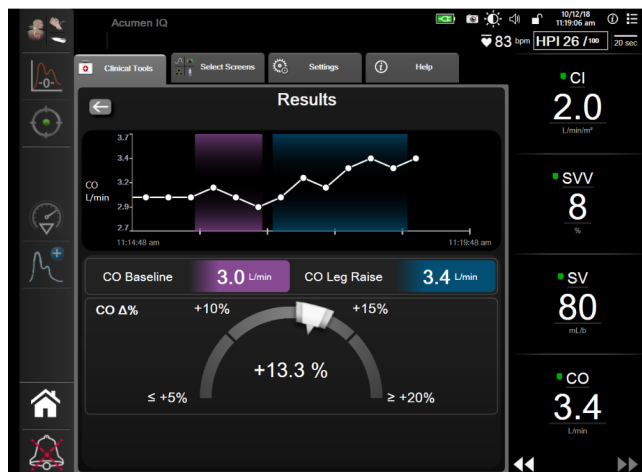

Figure 14-12: Fluid Responsiveness Test – Results Screen
- At the conclusion of the test, the change in the selected **Parameter** value as a response to the fluid challenge will be displayed. See Figure 14-12 on page 263. Touch the return icon to perform another test, or the home icon to return to the main monitoring screen.
9. At the conclusion of the test, change in the selected **Parameter** value as a response to the fluid challenge will be displayed. See Figure 14-12 on page 263. Touch the return icon to perform another test, or the home icon to return to the main monitoring screen.